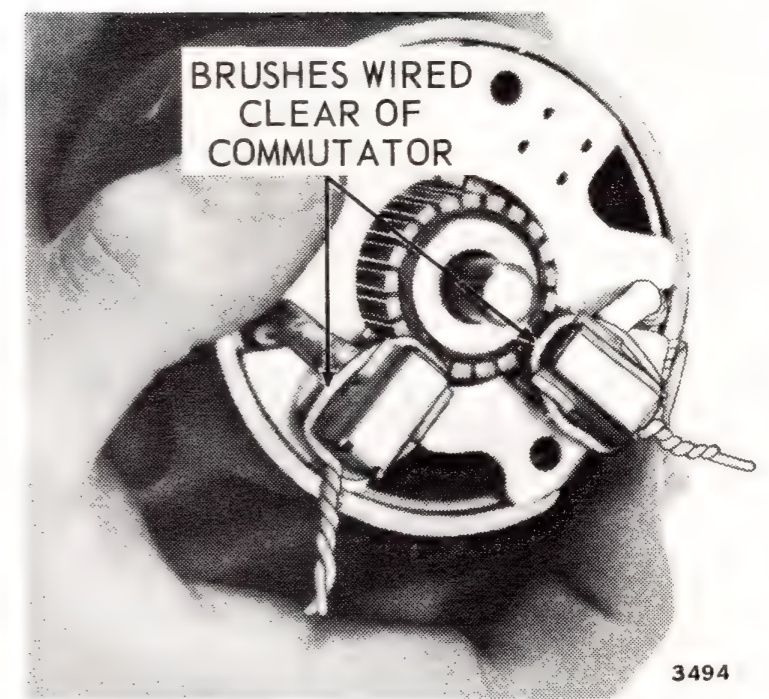

Figure 7-11. Reassembling Starter
b. To facilitate reassembly of the starter motor, insert brushes and brush spring in holder, and tie in place with fine wire or string. Assemble brush holder and armature to frame and field assembly, and remove string or wire. See Figure 7-11.